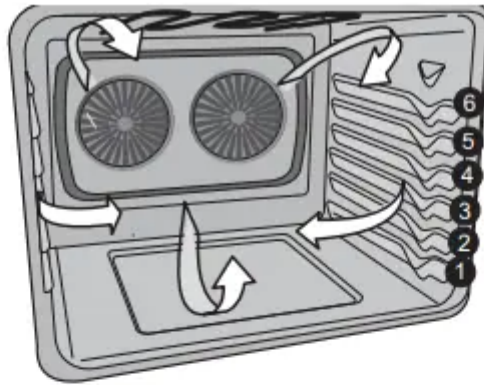

Figure 11: Convection air flow
- Convection baking enables you to obtain the best results when baking with multiple pans and racks. The oven can be programmed for convection baking at any temperature between 170°F to 550°F. The convection function uses a fan to circulate the oven heat uniformly and continuously around the oven (Figure 11). This improved heat distribution allows for fast, even cooking and browning results. It also gives better baking results when using two oven racks at the same time. During convection baking, the convection fan may pulse on and off to maintain the set temperature for precise baking.
- For best results when baking cakes using two oven racks, place Glide rack in positions 5 with offset rack in position 1. (See Figure 11).